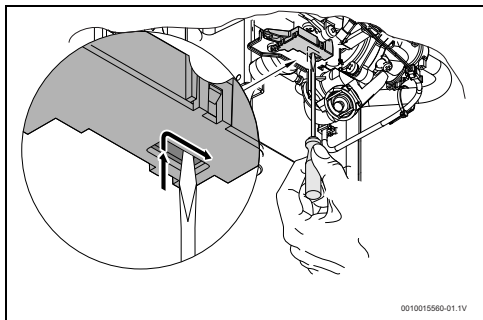

Fig. 23 Rearme do micro-interruptor
- ▶ Posicionar o micro-interruptor conforme Fig 23.